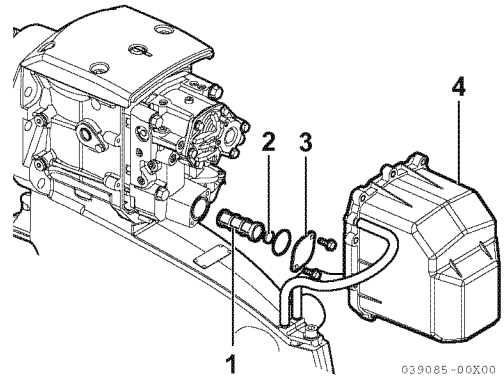

Figure 12
8. Remove the case plate cover (4, **Figure 12**), filter cover (3, **Figure 12**), magnet (2, **Figure 12**) and filter (1, **Figure 12**). Clean or replace the filter and magnet.